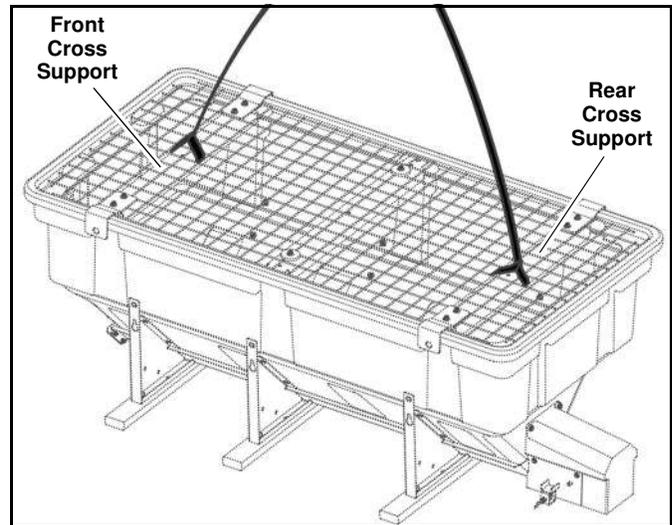

Figure 1-7
2. Attach two lift straps through the top grate to the front and rear spreader cross supports (See Figure 1-7).